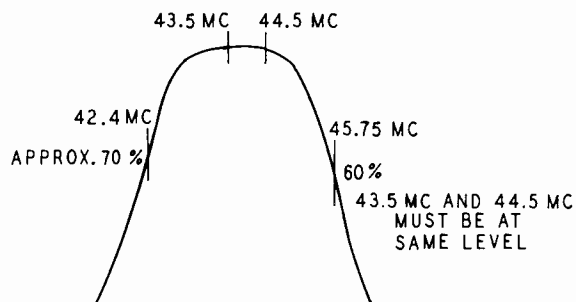

Fig. 5—Pix I-F Response From 1st Pix I-F Grid
2. With approximately $-7.0V$ bias on AGC line (junction of R-212 and C-213) connect sweeper to 1st I-F grid (Pin #1-V4). Reduce sweeper output to compensate for additional gain of 1st stage (4.0V. P-P on oscilloscope). Adjust 1st I-F transformer primary (top) and secondary (bottom) for maximum gain and symmetry with 45.75 mc marker. (See Figure 5.)